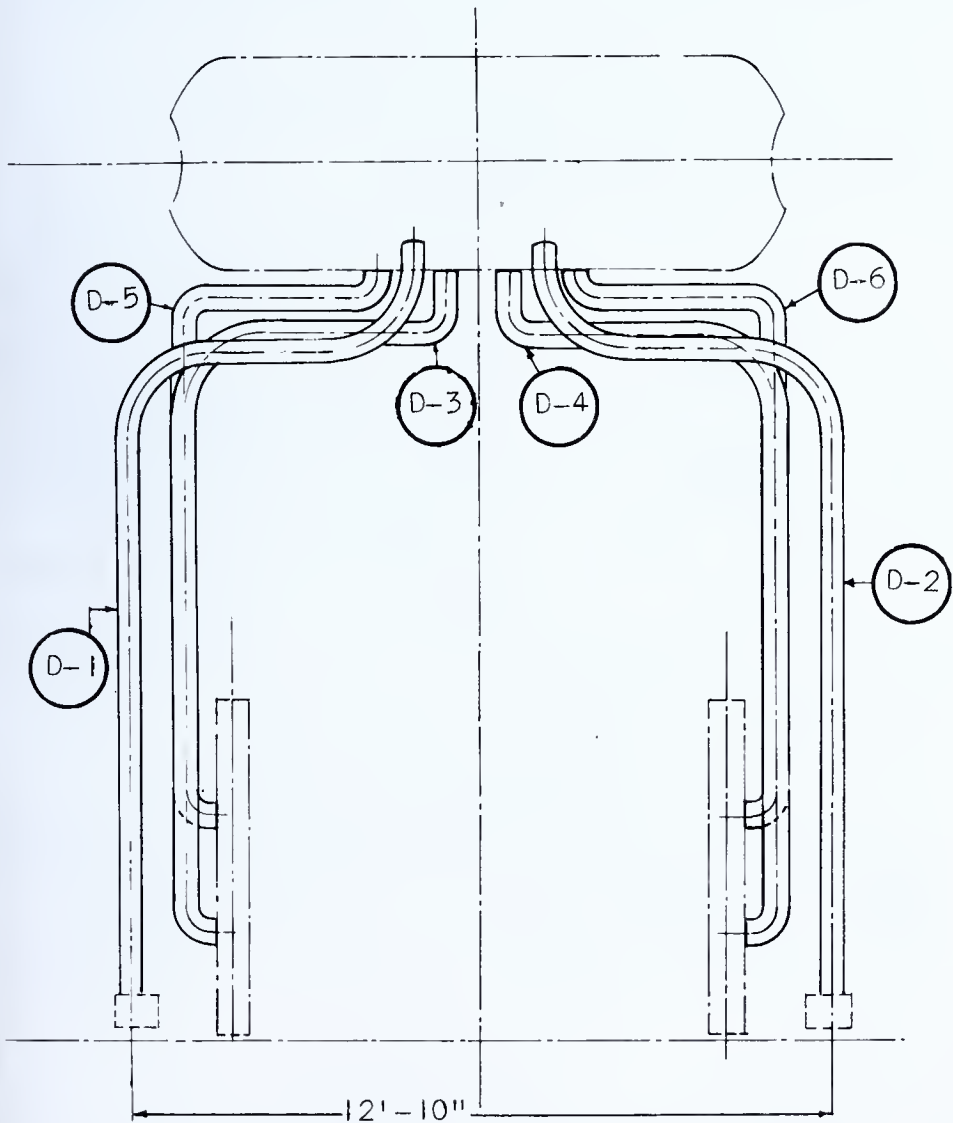

FIG. 521 — *Risers and Downcomers as Seen from the Front of the Boiler*
The rear view of the installation is shown in Fig. 518. The side view is shown in Fig. 520. The front view is shown in Fig. 521.
To install tubes D-5 and D-6 as shown in Fig. 521 and Fig. 520.
1. Hang the chain hoist from the upper side of the steam drum above the position of the downcomer tube as shown in Fig. 521.